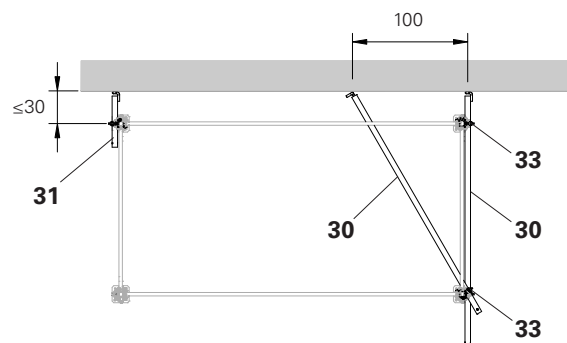

Fig. B6.01a
5. Fasten the Double Coupler (**33**) to the inner leg with Wall Tie UWT 45 (**31**). (Fig. B6.01a)